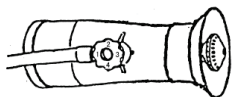

Fig.11
- Misting. Loosen the pressing lid, regulate the length of the nozzle opening to meet the different requirement of misting. Turn the regulating valve to change the amount of misting. See Fig.11.